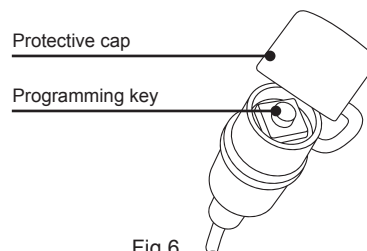

Fig.6
- Find the programming button on the incoming cable connected to the camera. If it is secured with a cap, remove it to gain access to the button (Fig. 6).